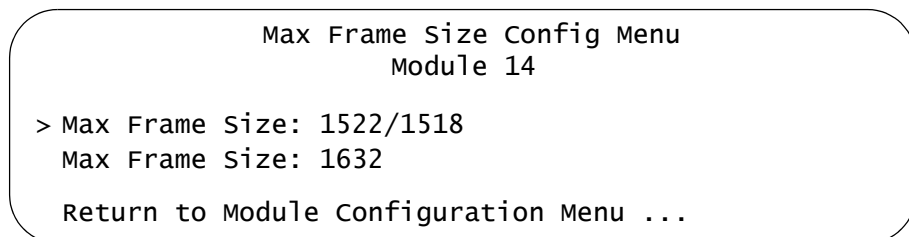

Figure 71. Max Frame Size Config Menu for the AT-CM2K0S Line Card
3. From the Module Configuration Menu, select **Configure Max Frame Size** to display the Max Frame Size Config Menu shown in Figure 71.